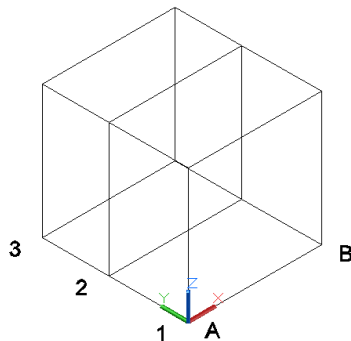

Figure 3-38 Model after creating the grid
- Next, accept default values for other options and choose the **Create** button; the grid is created, as shown in Figure 3-38. Next, change the view orientation to **SW Isometric**.